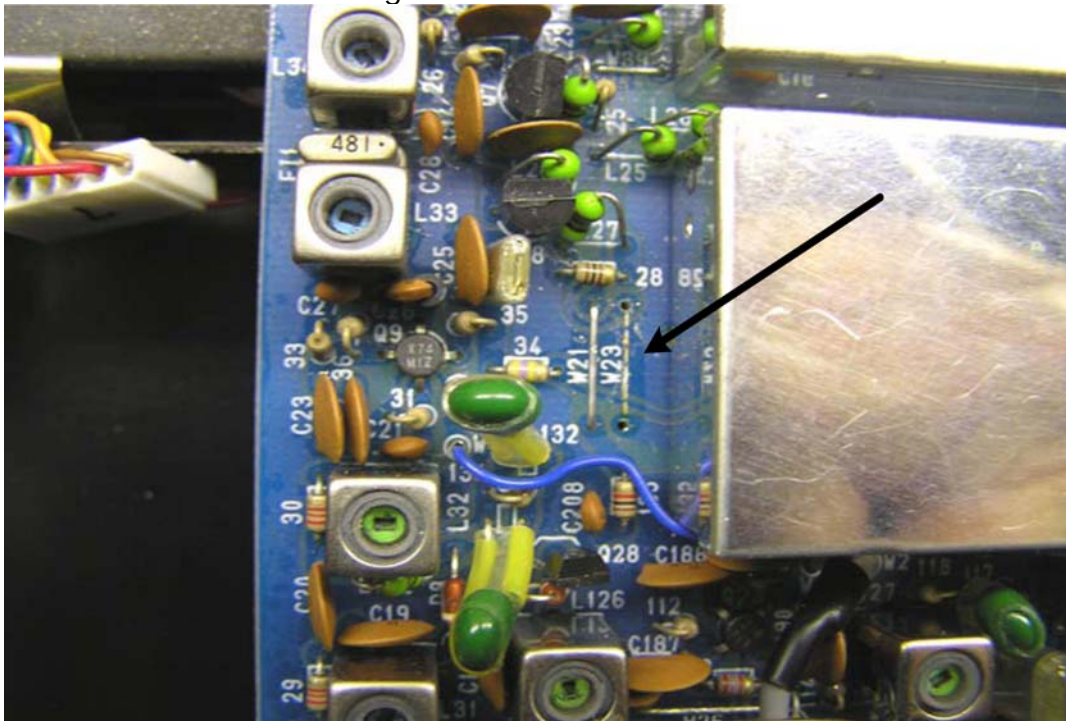

Figure 5 – Coaxial Shield Solder Location
13. Solder the shields of both coax cables to the side of the shield can as shown in Figure 5.